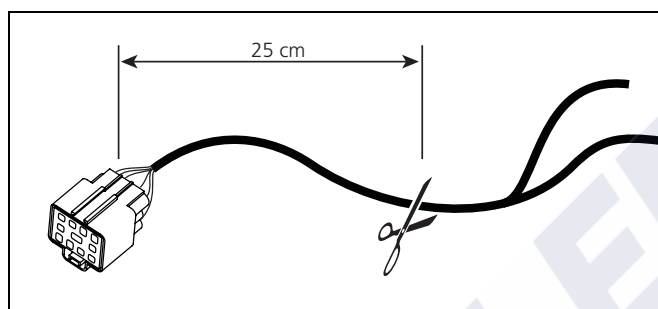

Fig. 701 Cut new external wiring harness
- 4 Cut new external wiring harness at approx. 25 cm distance from 12-pin plug. See Fig. 701.